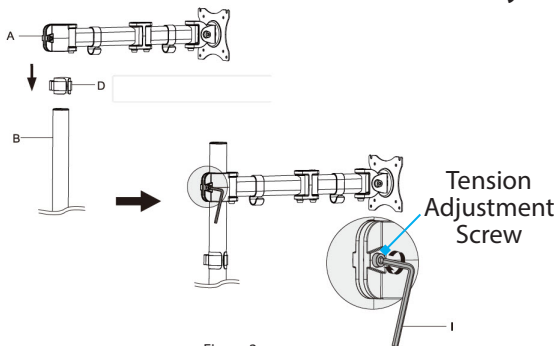

Figure 3
1. Slide one or two **Cable Management Clips (D)** onto the **Pole Assembly**. (Figure 3)
2. Slide the **Swivel Arm (A)** onto the **Pole Assembly**, ensuring arrow on the **VESA Mount** is pointing upwards.
3. Adjust the height of the **Swivel Arm (A)** to the desired mounting height for the **Laptop** and tighten the **Tension Adjustment Screw**, using the **5 mm Hex Key (I)**.